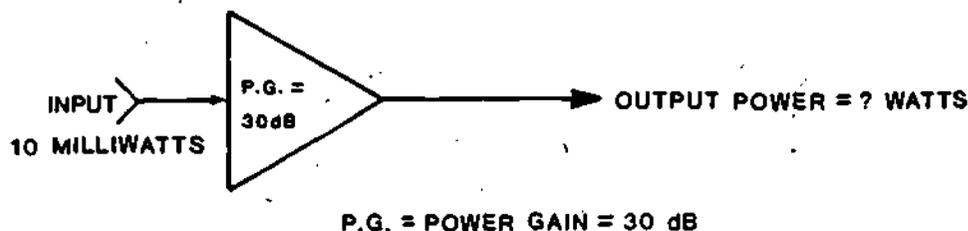

Figure 18
23. A similar problem looking for power output is shown in Figure 18.